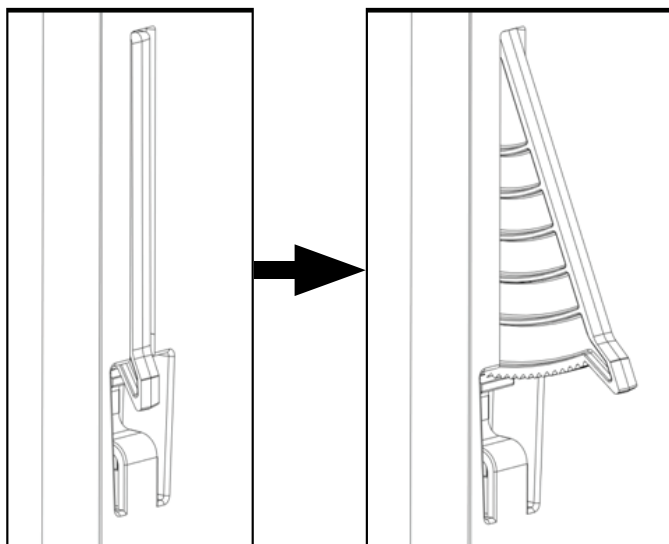

Fig. 24
F. Extend the **Integrated Window Locks** (located in the U channel) until they contact the window. Please refer to **Fig. 24**.